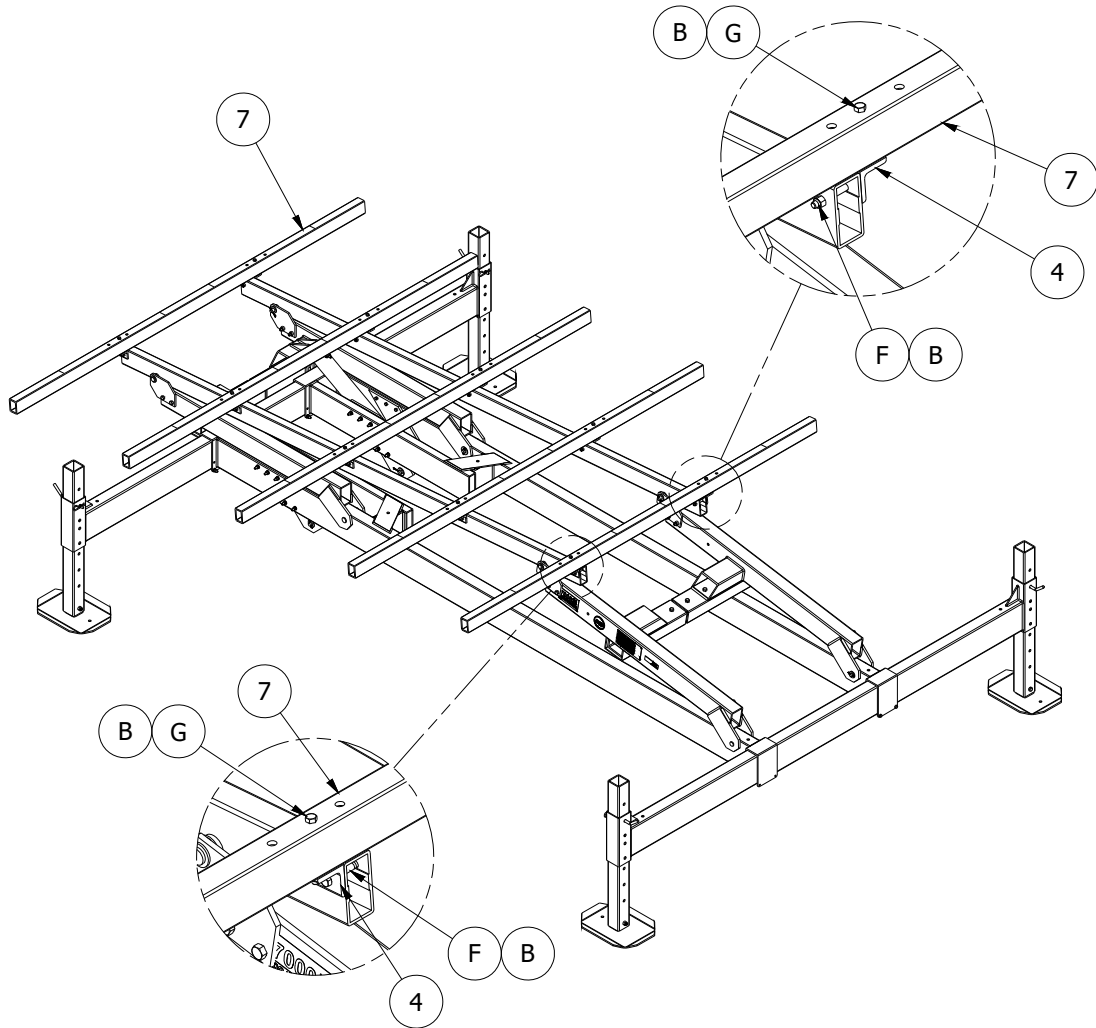

Figure 2-4.
1. **Refer to Figure 2-4.** Position one P&T Toon cross support tube (7), across both main support tubes, above each of the five through holes.
2. Position a cross tube mounting angle (4) between outside of main support tube and bottom of cross tube, using hex screw (G), and aluminum locknut (B).